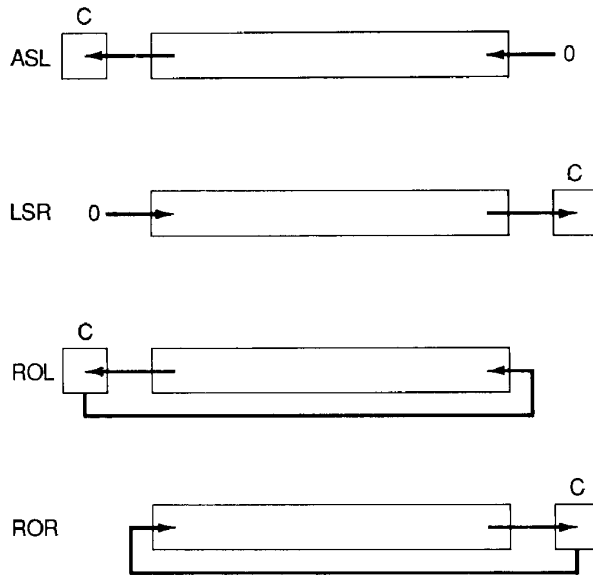

Figure 4-6
For all four instructions, the carry (C) flag acts as a “9th bit” or “17th bit” extension of the operand. That is, C receives the value of the bit that has been displaced out of the operand. A right shift or rotate puts the value of bit 0 into C; a left shift or rotate puts the value of bit 7 (byte) or bit 15 (word) into it. Figure 4-6 shows how these instructions operate.